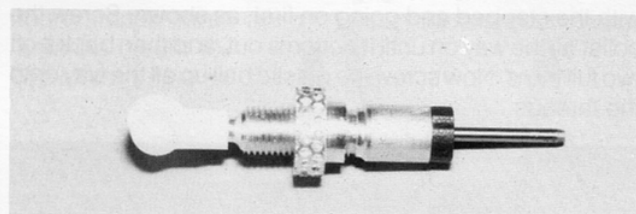

Fig. 46
□ **Figs. 46, 47 & 48**—Put a set screw into the shaft end and screw the plastic ball cup all the way on. Slide the # spring onto the shock. While holding the spring collapsed, slip the shaft end onto the shock shaft and securely tighten the set screw.